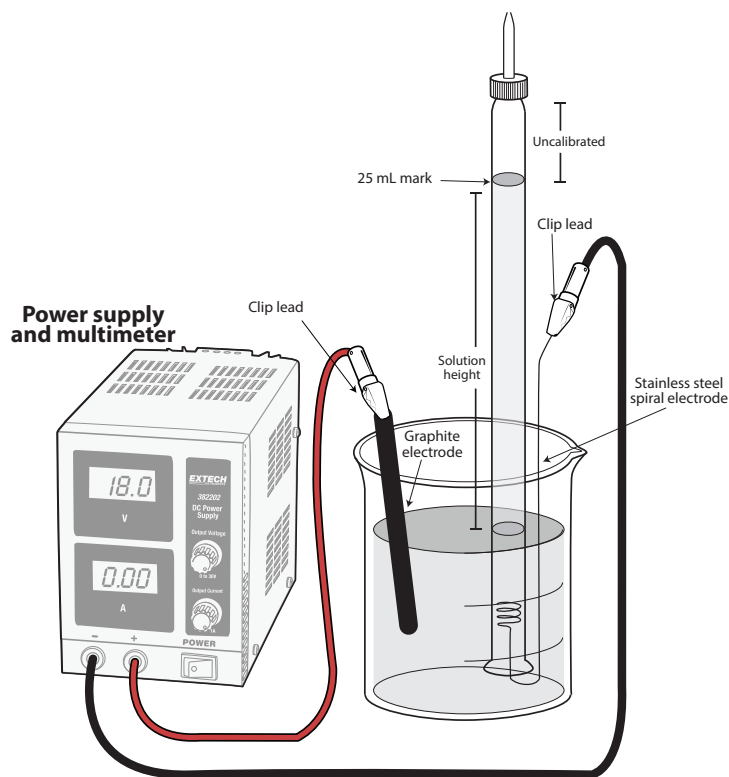

Figure 2. Electrolysis Apparatus
9. You will set up the electrolysis assembly to electrolyze water and collect one of the evolved gases in your buret. Figure 2 shows selected parts of the assembled apparatus as it should appear at the instant the electrolysis begins.
- c. Connect the (–) terminal from the multimeter to the spiral electrode. Connect the (+) terminal from the multimeter to the graphite electrode. Be sure you are collecting the hydrogen gas at the spiral electrode! Do NOT put the graphite electrode into the solution in the beaker just yet. Refer to Figure 2.
- b. Put the attached graphite electrode into the beaker as shown in Figure 2. Now adjust the current knob to get a reading of about 0.2 Amps.